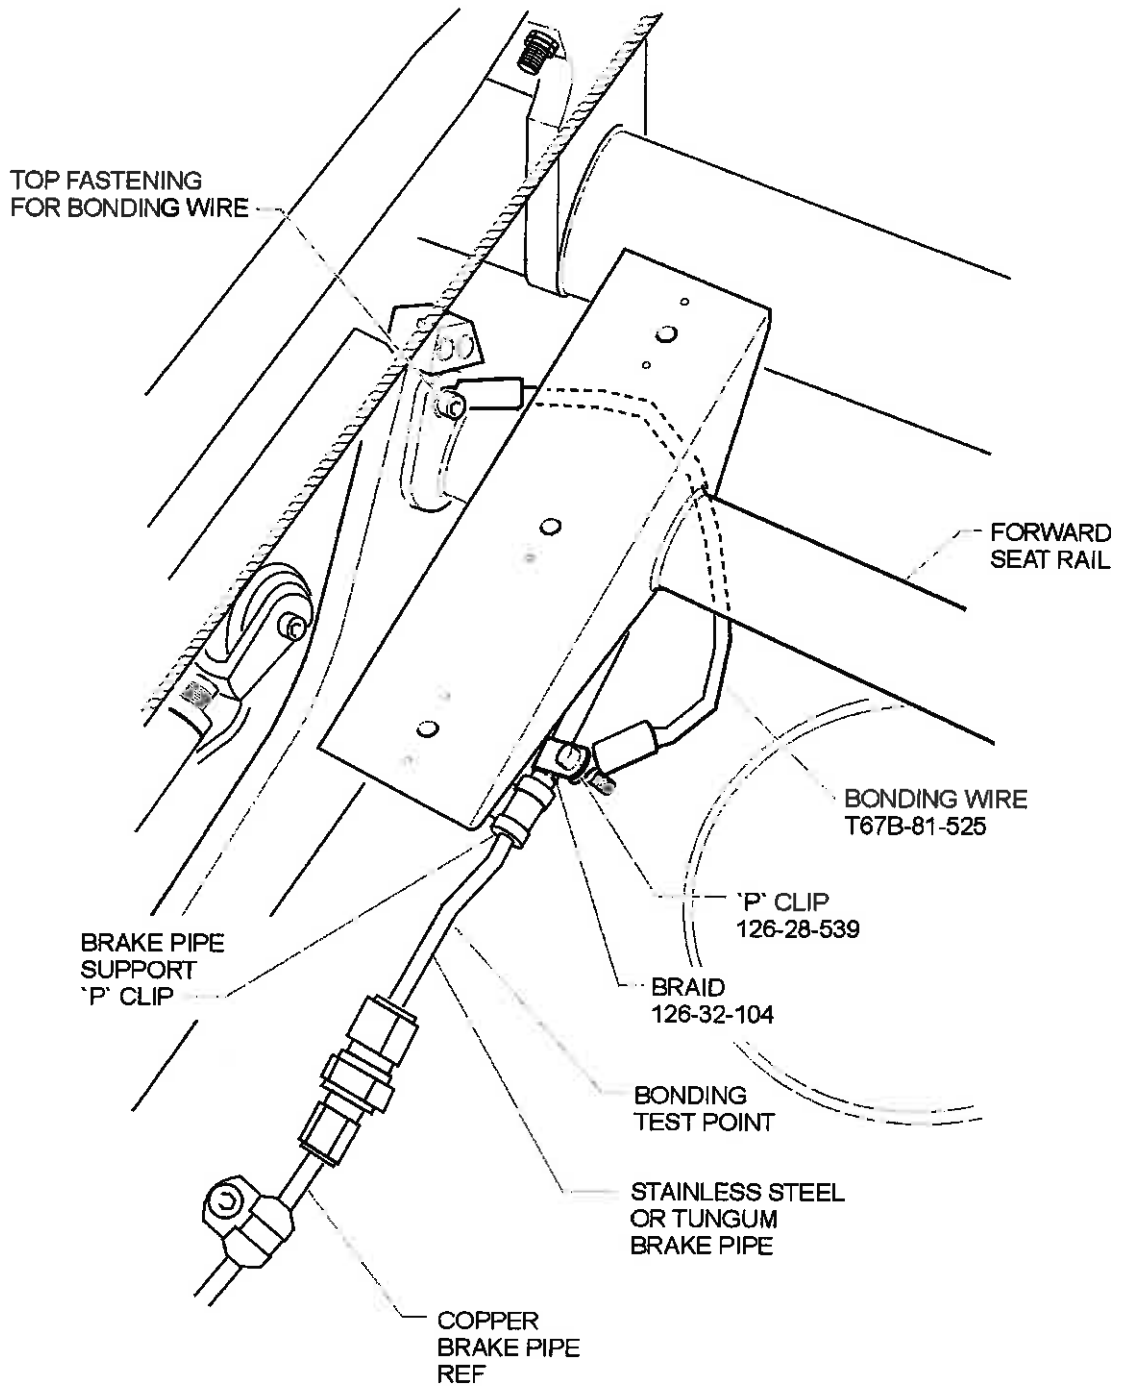

FIG1
2. Gain access to the brake pipe by either removing centre console or both seats access panel, where fitted. Refer Fig. 1.
- a. Ensure pipes have bonding wires (T67B-81-525) in position, refer Fig. 1. If no bonding wires are present then invoke Mod M871 "Introduction of bonding wire onto Stainless Steel brake pipes".
- 6. Following paragraph 5 b), take a bonding reading, between brake pipe (refer Fig. 1 for position) and EB 1. Reading to be less than .05 ohms.